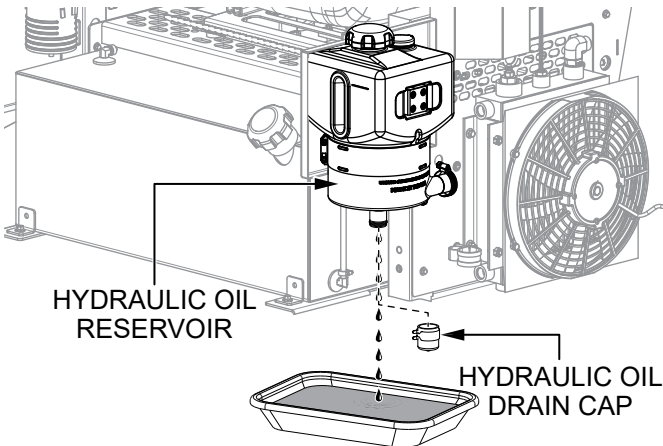

Figure 36. Draining The Hydraulic Oil
1. Place an appropriate container beneath the **hydraulic oil reservoir** (Figure 36) to catch the hydraulic oil as it drains.
2. Remove the **hydraulic oil drain cap** (Figure 36) and allow the hydraulic oil to drain completely from the reservoir.